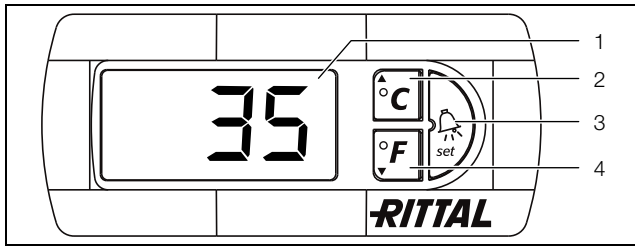

Fig. 16: Display and system analysis of the e-Comfort controller
The e-Comfort controller has a 7-segment display (fig. 16, item 1). After switching on the power supply, the current software version initially appears on this display for approx. 2 seconds. In regular operation, the display shows both the temperature (in degrees Celsius or Fahrenheit – users may switch between the two) and any error messages.
The unit is programmed using buttons 2 – 4 (fig. 16). The relevant parameters also appear in the display.
- Simultaneously press buttons 2 (°C) and 3 ("Set") (fig. 16) for at least 5 seconds.
Using buttons 2, 3 and 4 (fig. 16) you can change the parameters within the preset ranges (min. value, max. value).